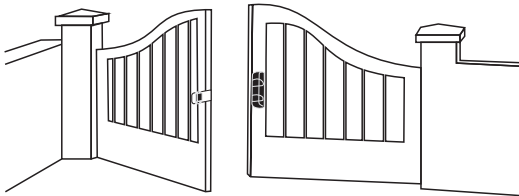

Fig.6 Mounting the sensor on the double leaf gate.
2. Mount the AZ-MG magnet on the one leaf, the AZ-TX transmitter on the second gate leaf, in such a way that the magnet and the transmitter are facing each other when the gate is closed (Fig.6).